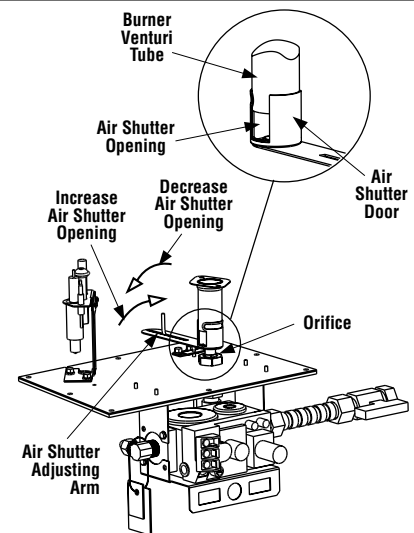

Figure 60
1. Refer to **Figures 58, 59 and 60** for proper flame appearance. To adjust the flame, rotate the adjustment rod toward the back or toward the front of the fireplace (rod located in the lower control area). Position the air shutter to the factory setting as shown in the table in **Figure 60**.